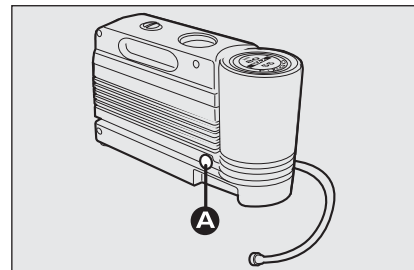

fig. 17
- ☐ push button **A**-**fig. 17** to release the replacement part;